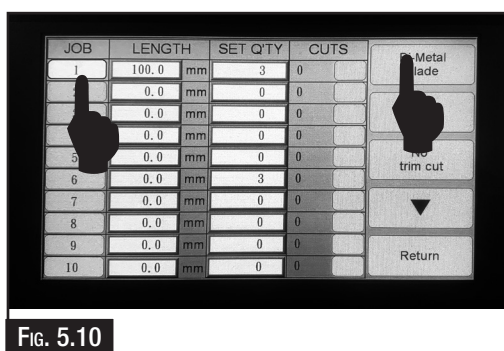

Fig. 5.10
- Select the type of blade being used, Bi-Metal Blade or Carbide Blade.(Fig. 5.10)